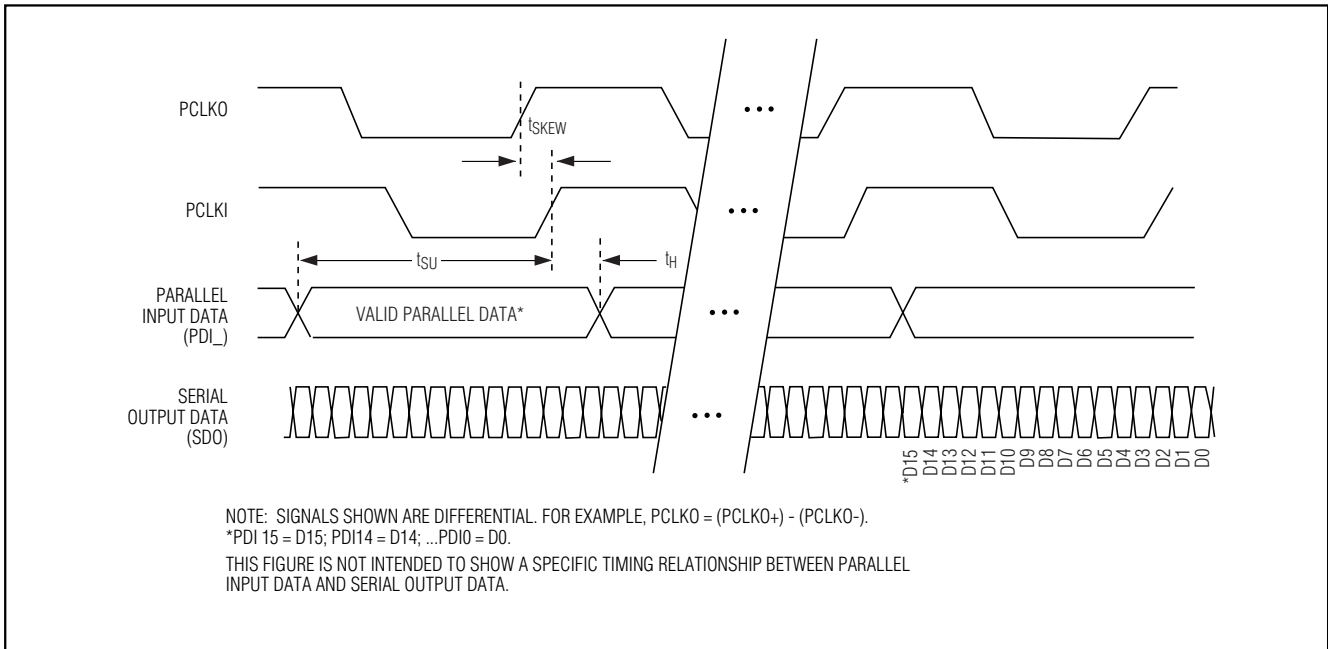

Figure 2. Timing Diagram
**Note 2:** Setup and hold times are relative to the rising edge of PCLKI+, measured by applying a 155.52MHz differential parallel clock with rise/fall time = 1ns (20% to 80%). See Figure 2.
( $t_{SKEW}$ ) that is defined with respect to the parallel-clock-output signal (PCLKO). PCLKO is the synthesized 2.5Gbps internal serial-clock signal divided by 16. The allowable PCLKO-to-PCLKI skew is 0 to +4ns. This defines a timing window after the PCLKO rising edge, during which a PCLKI rising edge may occur (Figure 2).